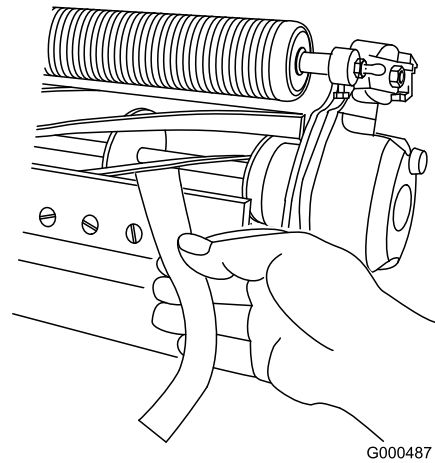

Figure 7
1. Bedbar adjusting screw (2)
- B. Insert a long strip of cutting performance paper between the reel and bedknife, perpendicular to the bedknife (Figure 7), then **slowly** rotate the reel forward; it should cut the paper; if not, repeat steps A and B until it does.
11. Insert a long strip of cutting performance paper (Toro Part No. 125-5610) between the reel and bedknife, perpendicular to the bedknife (Figure 7), then **slowly** rotate the reel forward; it should cut the paper; if not, turn each bedbar adjusting bolt clockwise 1 click and repeat this step until it cuts the paper.